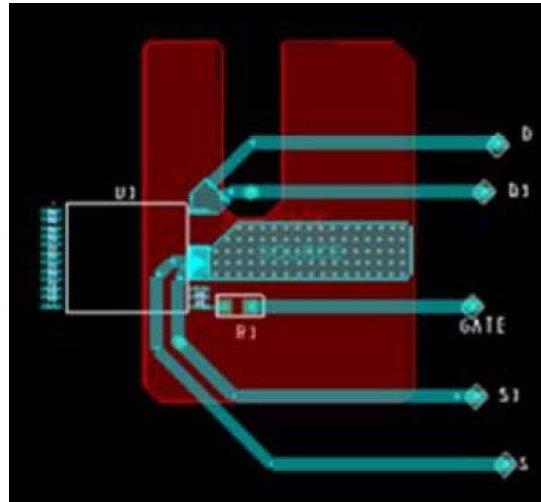

Figure 22. Thermal Resistance Test Conditions for PowiGaN Devices (LYT6078C, LYT6079C and LYT6070C.)
Testing performed on custom thermal test PCB as shown in Figure 22. The test board consists of 2 layers of 2 oz. Cu with the InSOP package mounted to the top surface and connected to a bottom layer Cu heat sinking area of 550 mm2.
- Please see Figure 22.